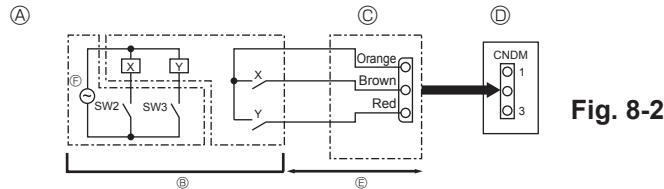

Fig. 8-2
⑥ Power supply for relay
8.2. Demand function (on-site modification) (Fig. 8-2)